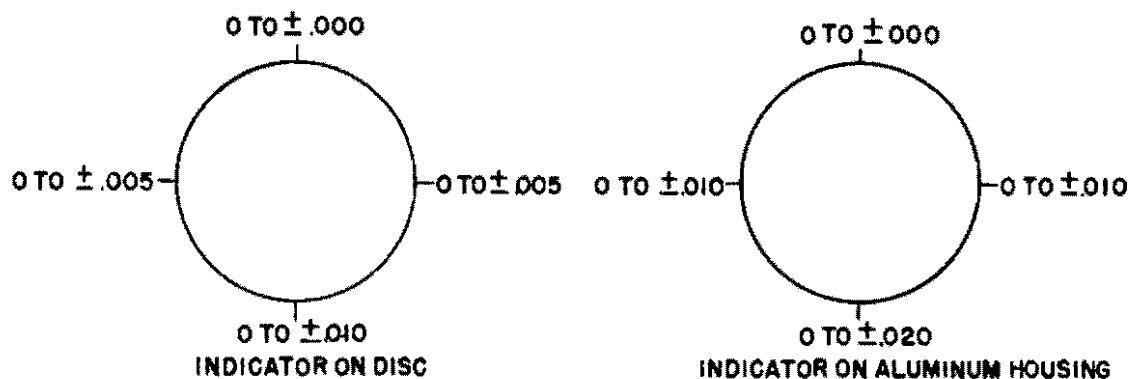

Fig. 19 - D12 And D14 Generator Alignment
6. From the 180° point in (5) revolve the flywheel three-quarters of a revolution in a counterclockwise direction and record the indicator reading at this point. Return the dial indicators back to the original starting or fixed point. Indicators must then register zero.
7. The generator is considered to be aligned when readings are obtained as shown in Fig. 19.